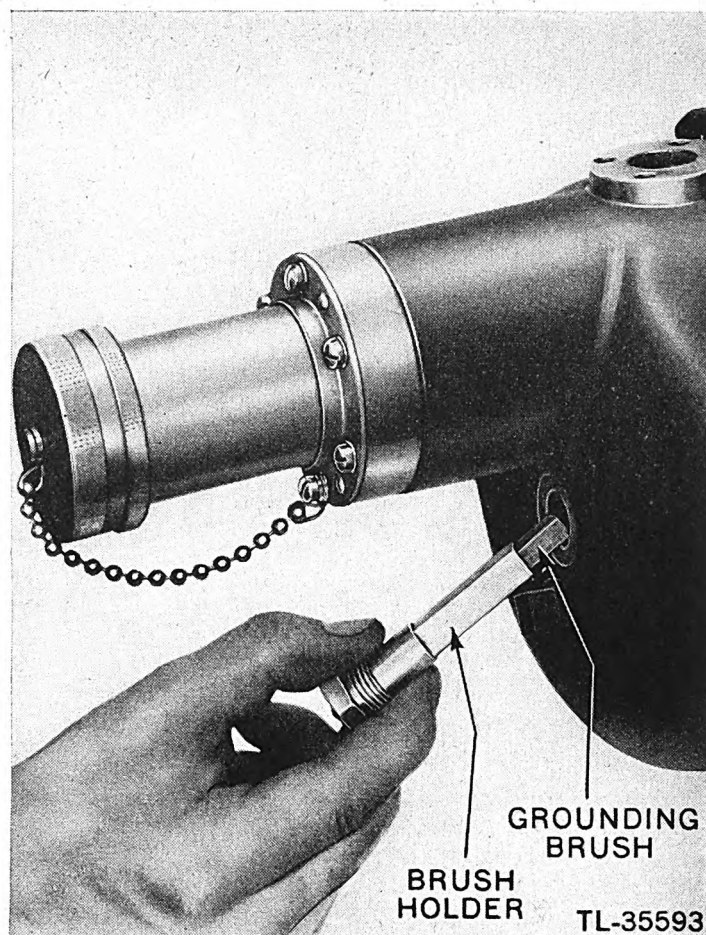

Figure 4. Inspecting grounding brush.
16. SPARK WHEEL BRUSH (fig. 4).